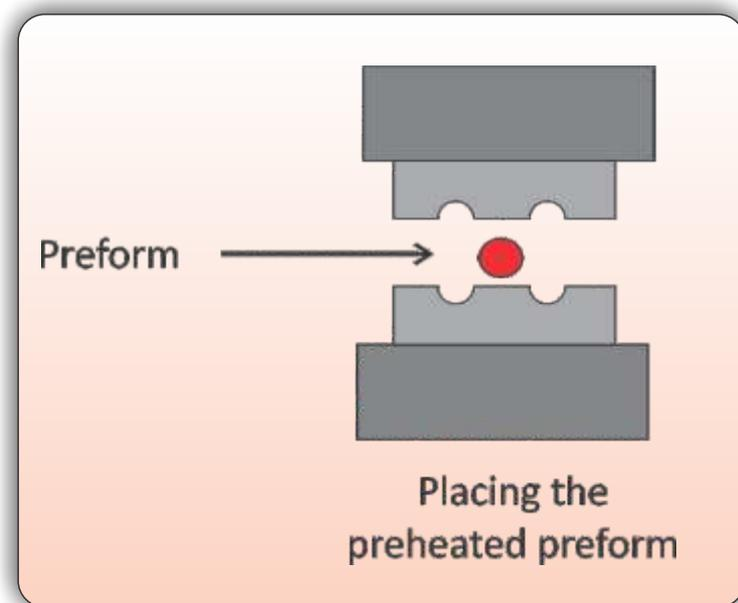
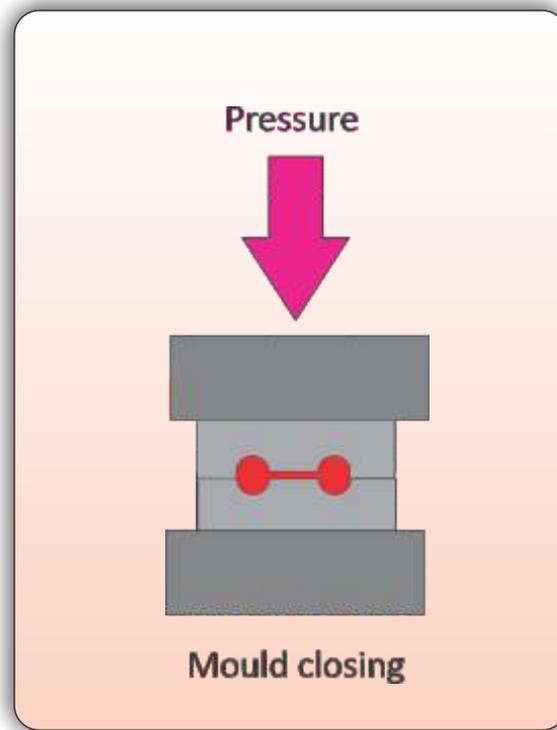

Figure 2.17 *Placing the preheated preform.*
Figure 2.18 *The pressure and temperature is then held for some period of time.*
- 1** The mould is preheated to the required temperature for the plastic raw material. The temperature of the mould is usually suggested by the raw material producer. A small convection heater is used for preheating. The preheated plastic is then inserted into the mould cavity (Figure 2.17) before the mould halves are joined. After the mould is closed, a breathing cycle is started to eliminate any trapped air bubbles. After that, the pressure and temperature are maintained for a length of time (Figure 2.18).